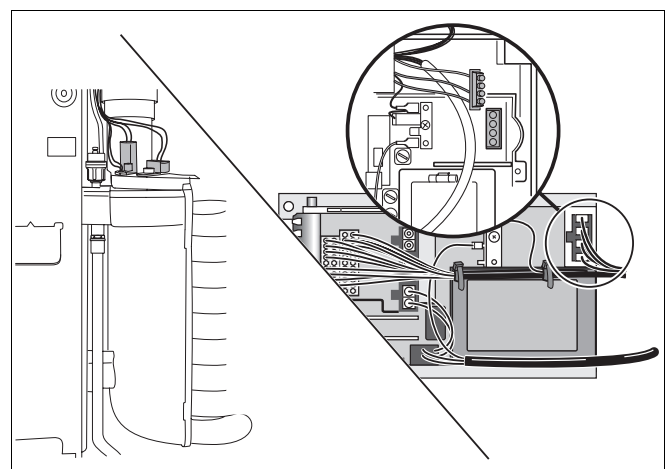

Fig. 54 Checking the hot surface ingitor
- Unplug and remove hot surface ingitor from UBA housing (fig. 54).